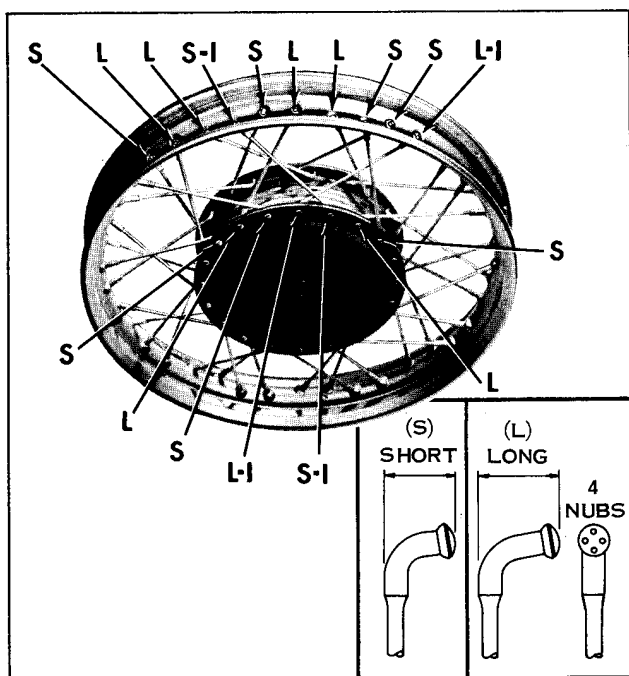

Figure 2-8A. Lacing Front Wheel - Super Glide
### FRONT WHEEL (Figure 2-8A)
Note that there are two types of spokes, long and short at bent end as shown in Figure 2-8A. One long and one short spoke are used in each pair. The long spoke (L) of each pair on rim crosses over to opposite side of hub while the short spoke (S) of each pair on rim connects to same side of hub. Spoke arrangement is shown in Figure.